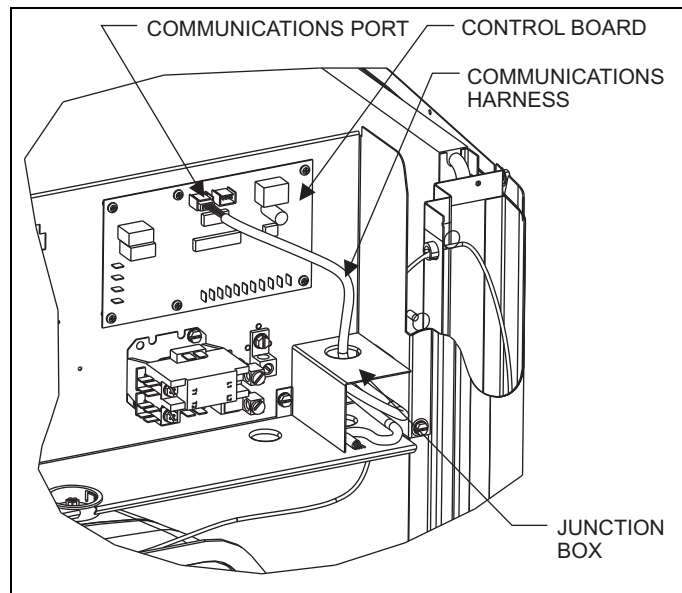

FIGURE 6: Communications Harness Connection
2. Route low voltage four conductor shielded thermostat communications harness into junction box and connect to communications port on control board. See Figure 6.